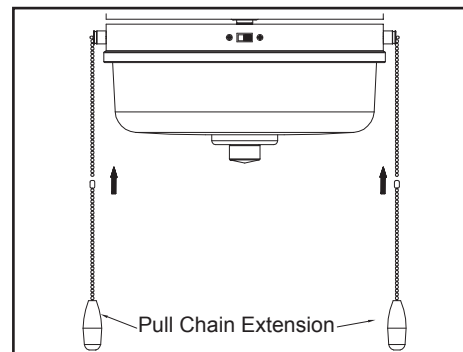

Figure 16
6. Attach the pull chain extensions to the fan pull chains and light pull chains. (Figure 16)